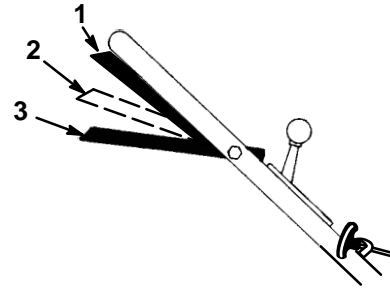

Figure 10
3. To engage the self-propel drive, squeeze the control bar against the handle to the RUN/DRIVE position (Fig. 10).
Note: Do not shift speeds while control bar is squeezed against handle in the RUN/DRIVE position; the transmission could be damaged. Move control bar to the RUN/SHIFT position (Fig. 10) when changing ground speed.